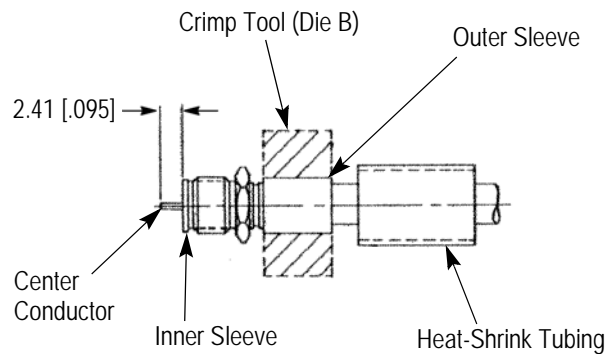

Figure 4
2.2. Crimping the Cable to the Inner Sleeve (Figure 4)